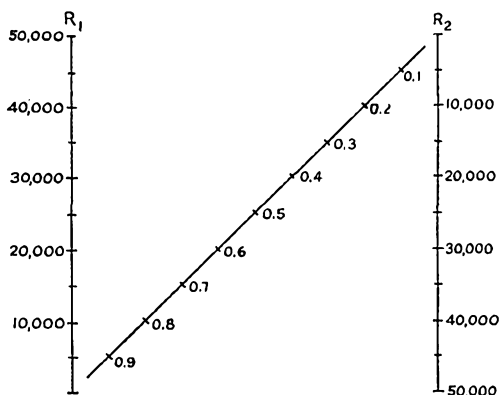
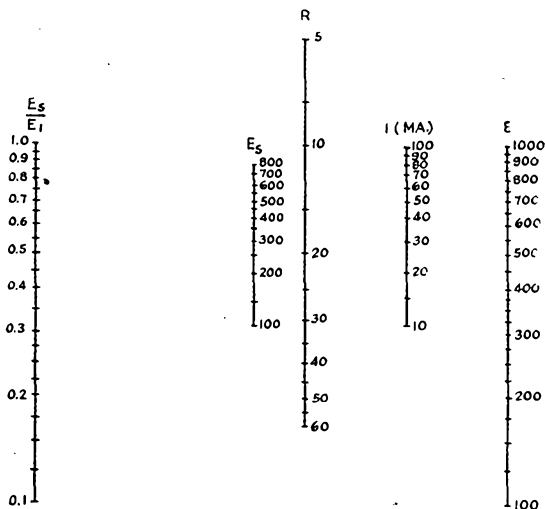

Fig. 2—Graph showing the proportion of voltage across  $R_2$  as a function of  $R_1$  and  $R_2$  (refer to Fig. 1).
Fig. 3—Nomograph for determining voltage and current relationships in a voltage-regulating circuit.
Figs. 2 and 3 are nomographs to provide a ready solution of Equations (1) and (2). In Fig. 2, the values of  $R_1$  and  $R_2$  are aligned,
starting voltage, is found. This value then is entered in Fig. 3 and combined with the value of  $E_1$  on the  $E$  scale to find the starting voltage.  $E_o$  (on the  $E$  scale) is applied to  $R_2$  and the current,  $I$ , noted from the chart. Then  $E_1 - E_o$  (again on the  $E$  scale) is applied to the value of  $R_1$ . This current should be 10 to 35 ma. greater than the current previously determined, or 20 to 70 ma. for two tubes in parallel, and so forth. If either  $R_1$  or  $R_2$  is unknown, it will be necessary to use Fig. 3 to find the mini-
this value with the known resistance in Fig. 2, following with a test for currents in Fig. 3.